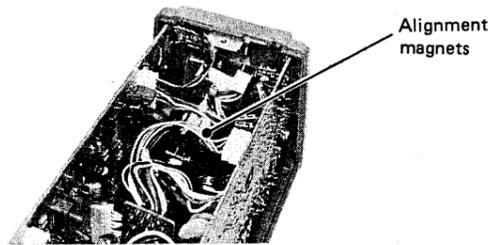

Fig. 7
- While turning FOCUS VR101 clockwise and counterclockwise, rotate the alignment magnets (Fig. 7) so that the picture appears rotating around the center. In other words, as the picture goes in and out of focus, the center of picture will not move.